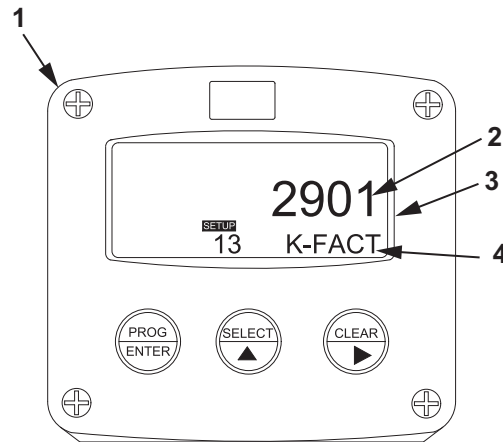

Figure 6. K-FACT Display.
- f. Verify that K-FACT (Figure 6, Item 4) appears on the display screen (Figure 6, Item 3) and that the K-factor (Figure 6, Item 2) displayed matches the K-factor written on the tank volume meter. If the K-factor (Figure 6, Item 2) displayed does not match, perform the procedure to program tank volume meter monitor settings and enter the K-factor as shown on the tank volume meter.
- g. Press the SELECT key (Figure 6, Item 5) on the tank volume meter monitor (Figure 6, Item 1).